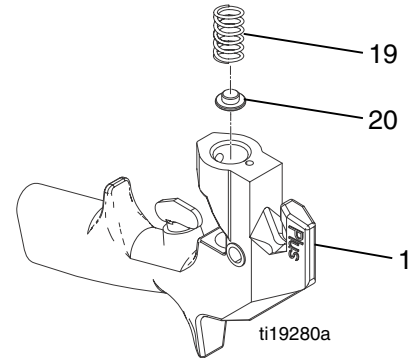

FIG. 15
- If the spring (19) was removed, grease the spring adjuster (20) and place the spring on the adjuster then drop into the gun body (1). See FIG. 15.